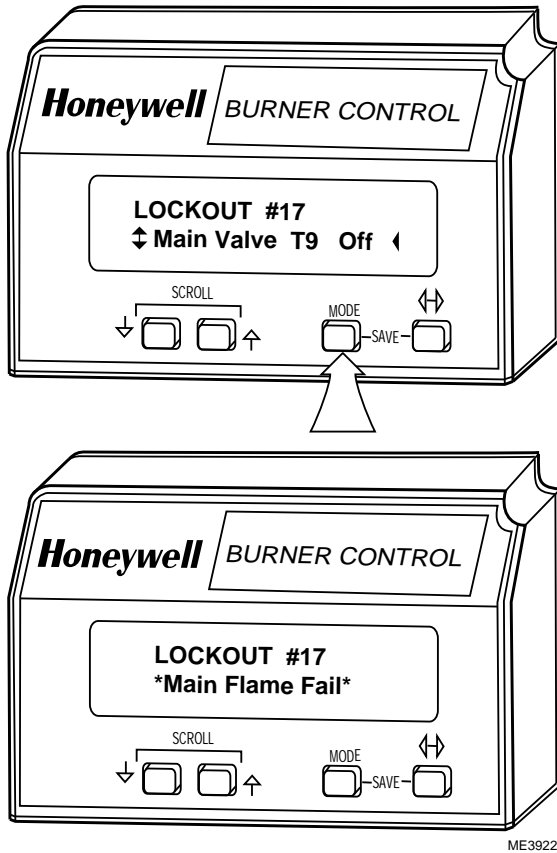

Fig. 20. MODE pushbutton function.
③ MODE pushbutton, see Fig. 20.